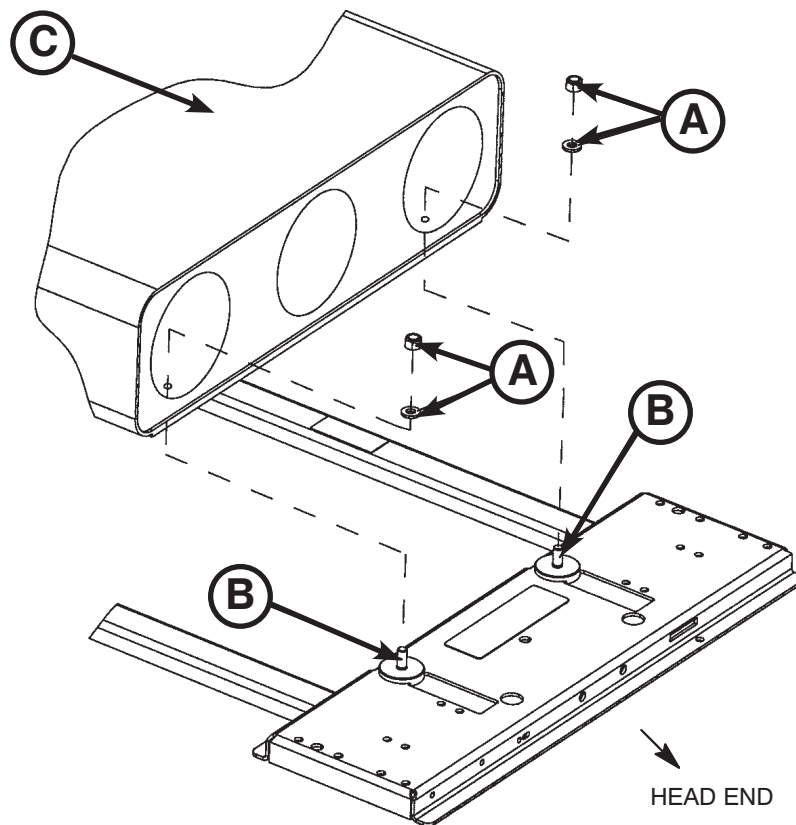

Figure 30: Airborne™ Stackable
1. Using the 1/2" socket and ratchet, remove the four 5/16" hex nuts and washers (A) from the mounting studs (B) on the adaptor as shown in Figure 30.
2. Locate the mounting holes in the bottom of the oxygen bottle module (C).
3. Install the oxygen bottle holder on the adaptor mounting studs (B) with the bottle openings facing toward the retractable head section. Verify that all four mounting studs are properly seated into the mounting holes of the oxygen bottle holder.
4. Using a 1/2" socket and ratchet, install the four 5/16" hex nuts and washers (A) that were removed in step one and securely tighten them.